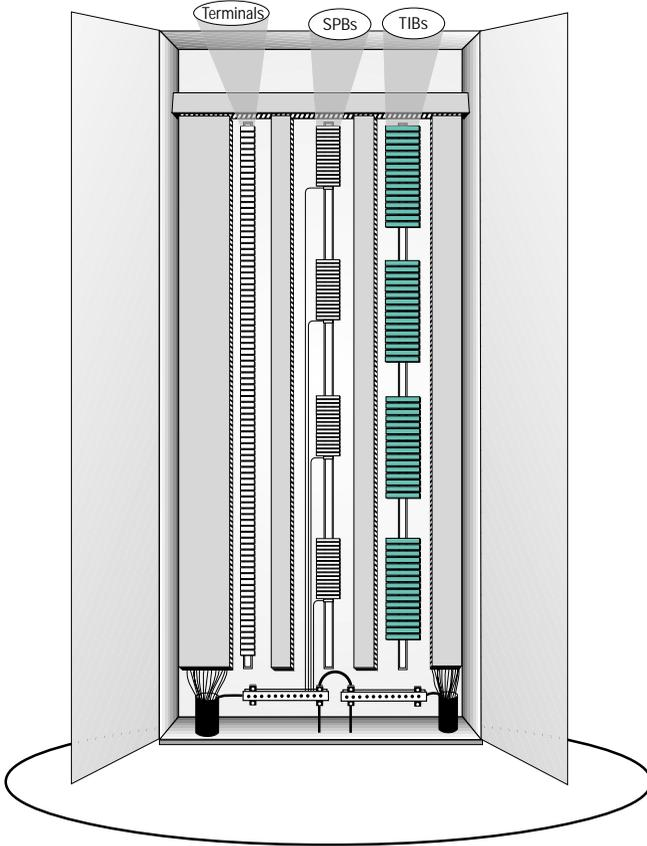

Figure 30: Cabinet layout EEx 'i' applications
For the intrinsically safe (IS) cabinet layout, the isolated SPBs are placed on a mounting rail. The earth connections of the group of 16 SPBs are directly linked over group terminal clamps to the cabinet's earth busbar. The shield of the incoming multicore cable is bonded directly to the cabinet's busbar (see Figure 30: Cabinet layout EEx 'i' applications).